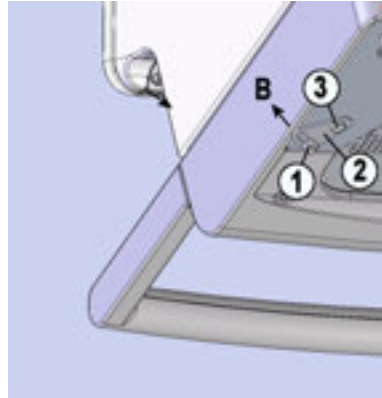

Fig. 31 View from below of trolley mount: screws
- 2 Use the screws (Fig. 31/3) to secure the Savina 300 to the trolley.
- 3 Push the locking devices (Fig. 31/2) on the left and right sides of the trolley outwards towards **B** as far as they will go and tighten the nuts (Fig. 31/1).